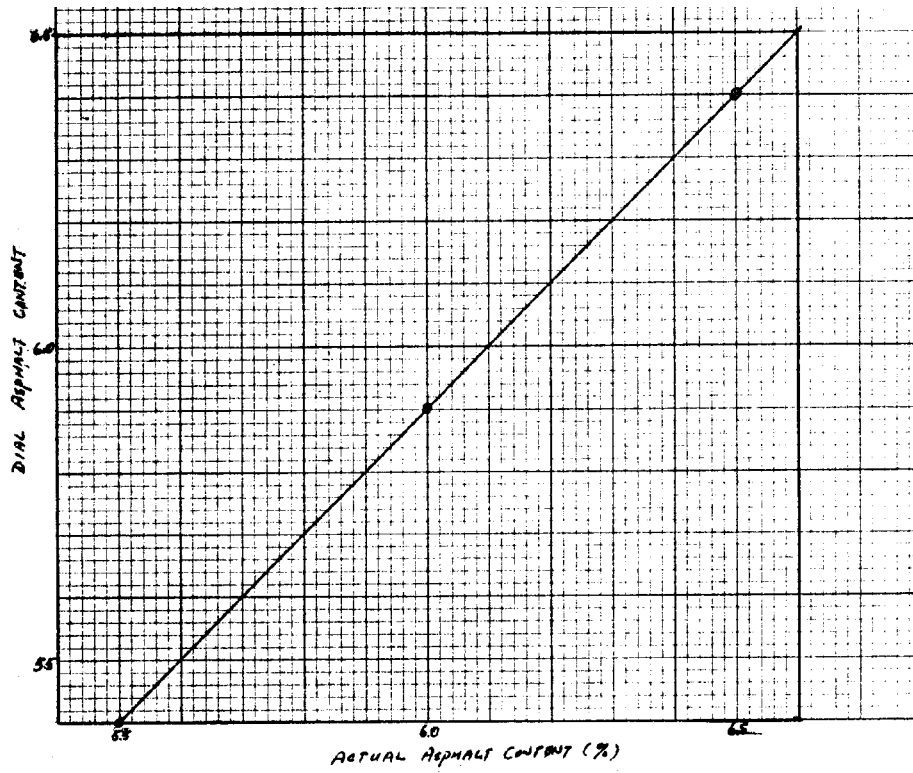

FIGURE 16
33. Plot a graph of Percent Asphalt Dial versus Actual as shown in Figure 16.